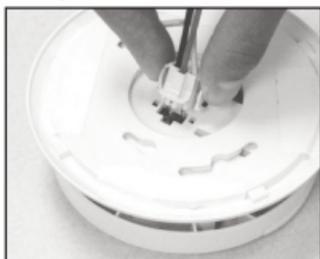

FIGURE 4
5. Remove the cardboard square from the connector pins and plug the AC QUICK CONNECT into the back of the alarm (see figure 4), making sure that the locks on the connector snap into place. Then push the excess wire back into the electrical box through the hole in the center of the mounting bracket.